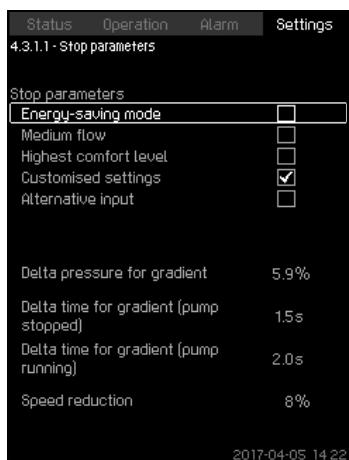

Fig. 72 Customised settings
3. Select one of the stop parameters. If you select "Customised settings", you must set the parameters shown in fig. 72. See the examples below.